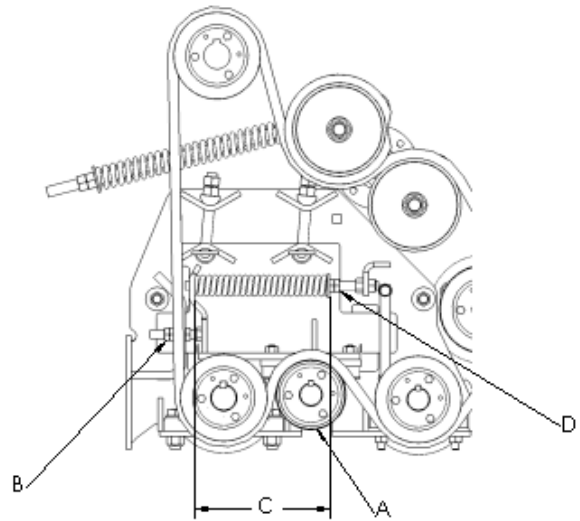

Figure 7-27: Rock Trip Spring Adjustment
3. Adjust nut (D), shown in Figure 7-27, so dimension (C) is 8.5 inches (22 cm).